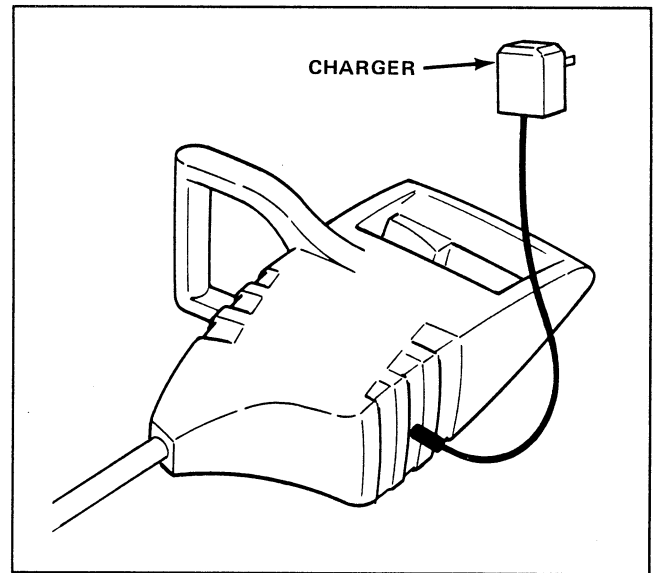

Figure 4
1. Fully charge your battery immediately after each use (Fig. 4). Charging time of 24 hours will restore a discharged battery.
1. Insert charger plug into receptacle located on the bottom of the power case (Fig. 4).